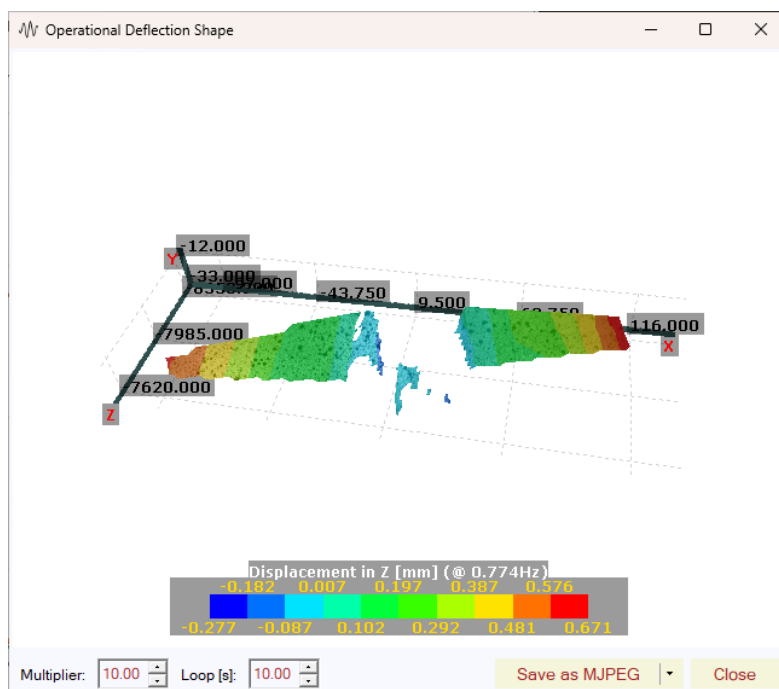

Figure 100: The Operational Deflection Shape dialogue
- ❖ **Display ODS** – Opens the Operational Deflection Shape dialogue (see Figure 100). This dialogue shows a 2D or a 3D graph of the desired quantity for the frequency selected in the Vibrography Tool window. For a better visualization in the ODS dialogue, change the following parameters: